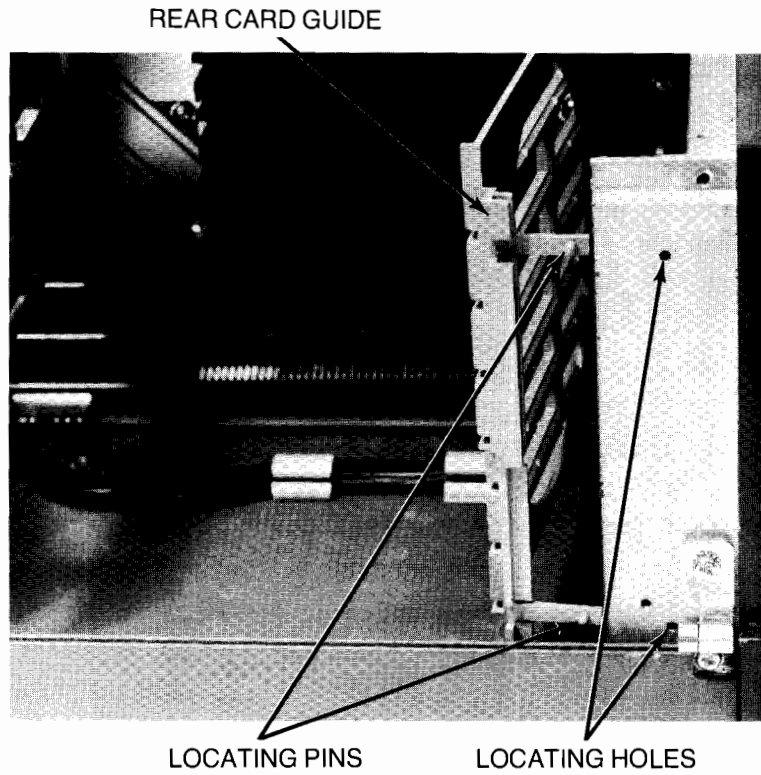

Figure 4-71. Removing Rear Card Guide
7. Remove rear card guide by pushing two front locating pins out of casting while pulling front of guide gently outward (Figure 4-71).